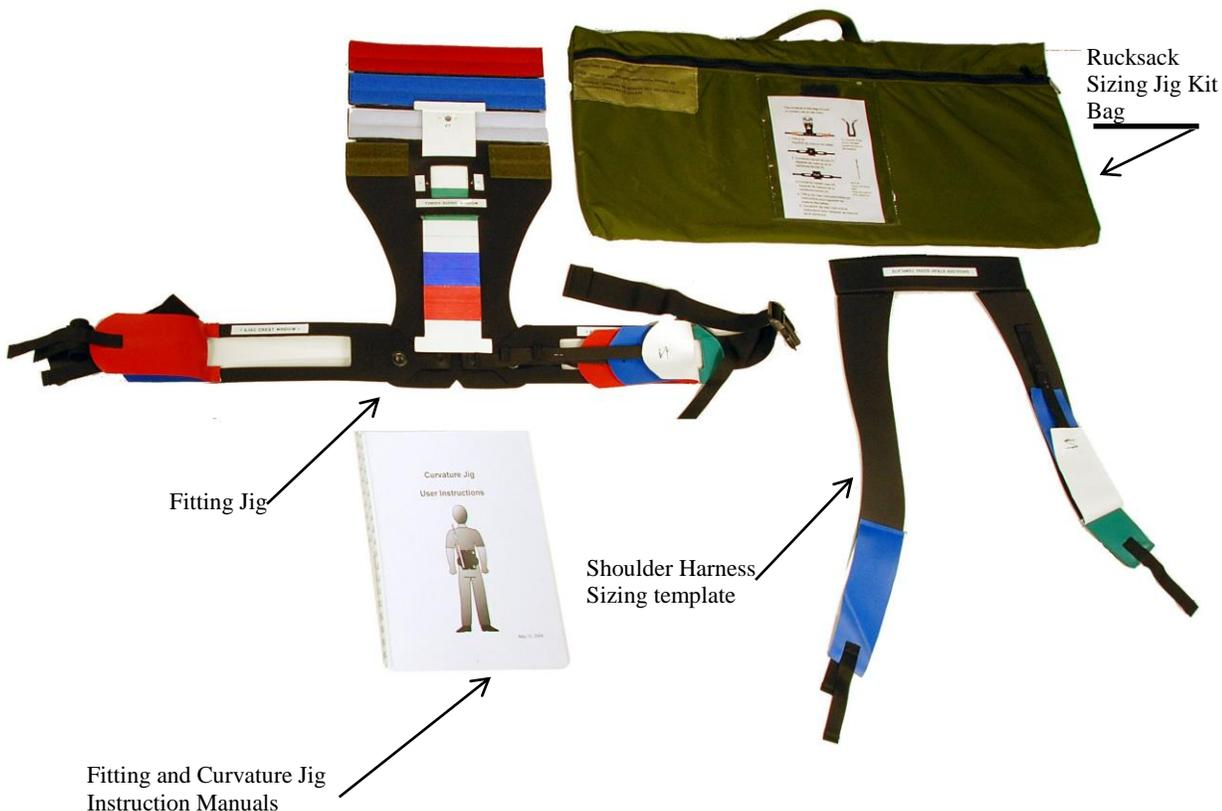

Figure 1 – Rucksack Fitting Jig
1. Familiarize yourself with the Fitting Jig, Figures 1, 2 and 3, and ensure that it is deployed and ready to go.